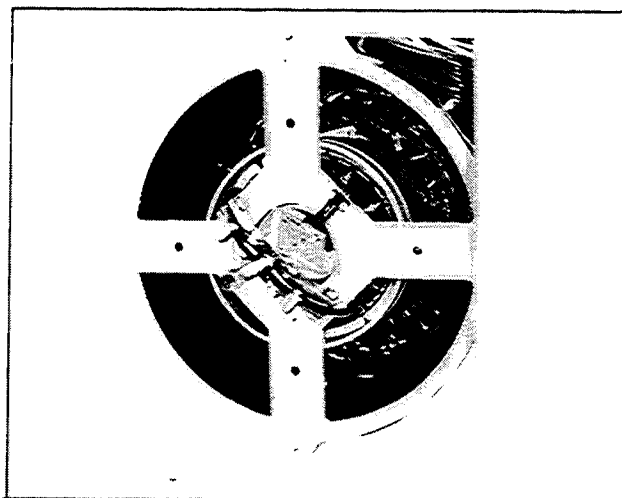

Figure 4-14. Removing End Bracket
5. Remove end bracket by using a puller, Figure 4-14.